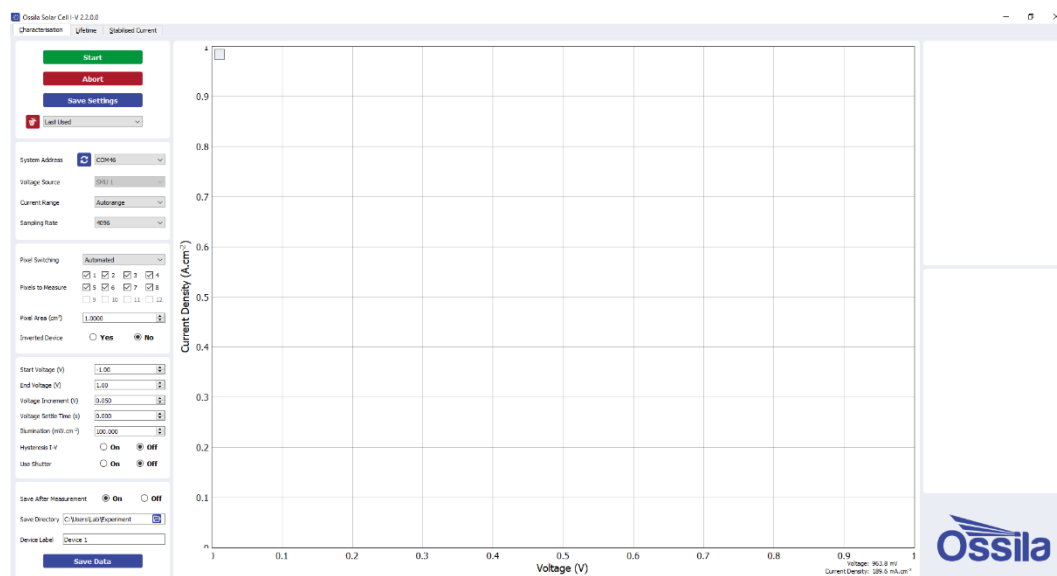

Figure 9.1. Solar Cell I-V software: The Characterisation tab.
1. Start the Ossila Solar Cell I-V software. The window shown in **Figure 9.1** will open.